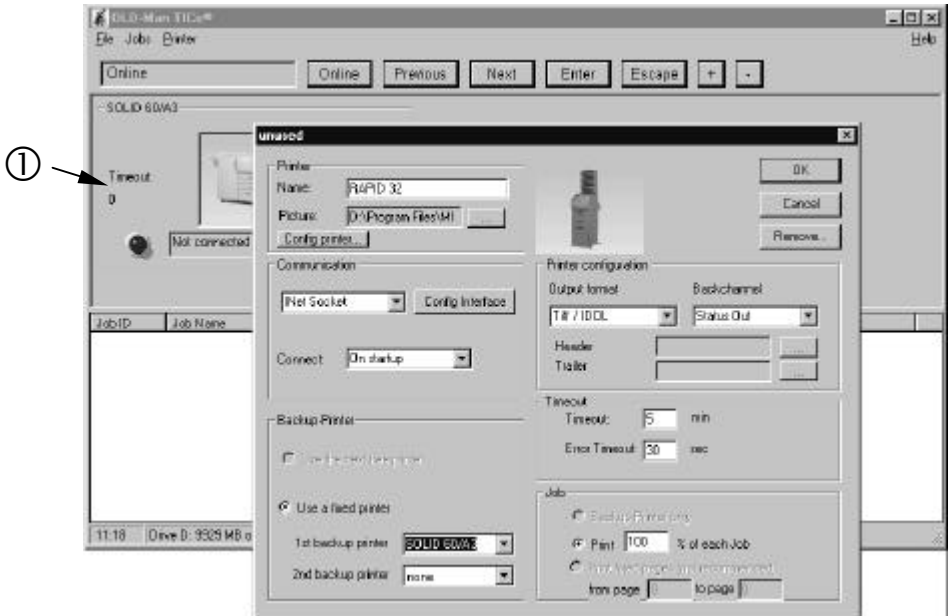

Fig. 4.3.f Additional printer configuration
In the **control window for the connected printers** (see ① in fig. 4.3.f) the first printer is already shown now (half-concealed by the printer configuration window in fig. 4.3.f).
In the **group** ²**Job**² (fig. 4.3.f right/below) you can determine if the printer has to work only as backup printer. If a printjob is distributed on several printers, you can decide by activating the input field **Print ... % of each Job** for each printer, the printjob share (in %) this device has to take. These functions are only available in connection with the clustering module of OLD - Man TICo®. In the bottom input fields of the group "Job" you can determine which printer prints which pages of the printjob.
In the **group** ²**Backup Printer**² (fig. 4.3.f left/below) you can determine the other printer that has to operate as backup printer for the first one.
In the **group** ²**Timeout**² (fig. 4.3.f center/right) you can determine the time OLD - Man TICo[®] will wait in case of occurring communication problems until it will not employ the corresponding printer anymore.